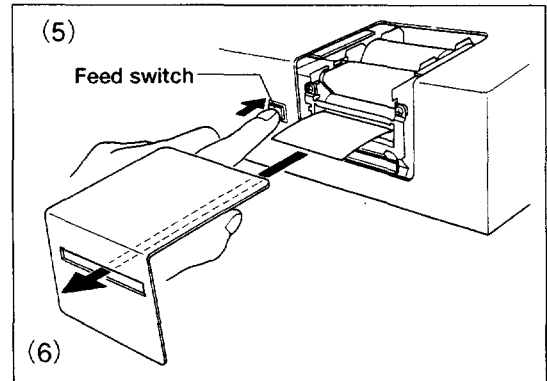

Figure 22
- (5) Press the **FEED** switch. The paper will be automatically fed. (If the paper is not fed properly, insert the leading edge of the paper deeper in the printer interior and press the **FEED** switch again (see Figure 22).
- (6) After routing the paper through the paper outlet in the printer cover, replace the printer cover (see Figure 22).